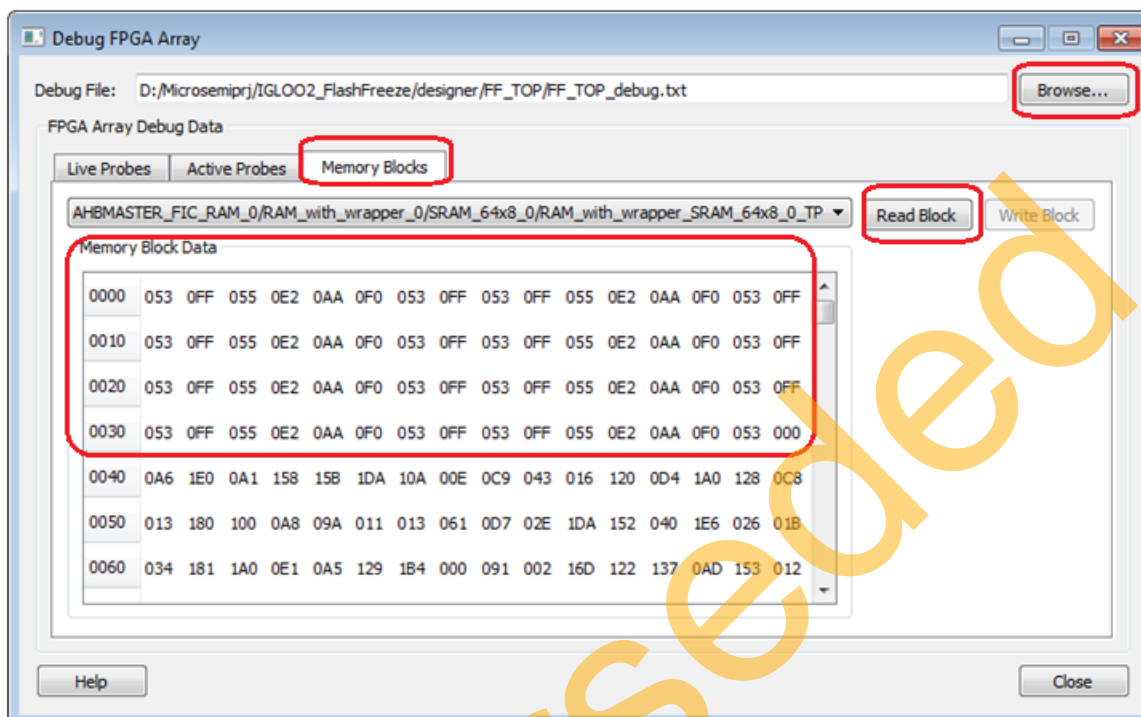

Figure 13 • SRAM Read-back Content before F*F entry
- b. Select the **Memory Block** tab in the **Debug FPGA Array** window and select **Read Block** as shown in Figure 13. The SmartDebug tool reads the SRAM content from the device and shows it in the **Memory Block Data** section as shown in Figure 13.